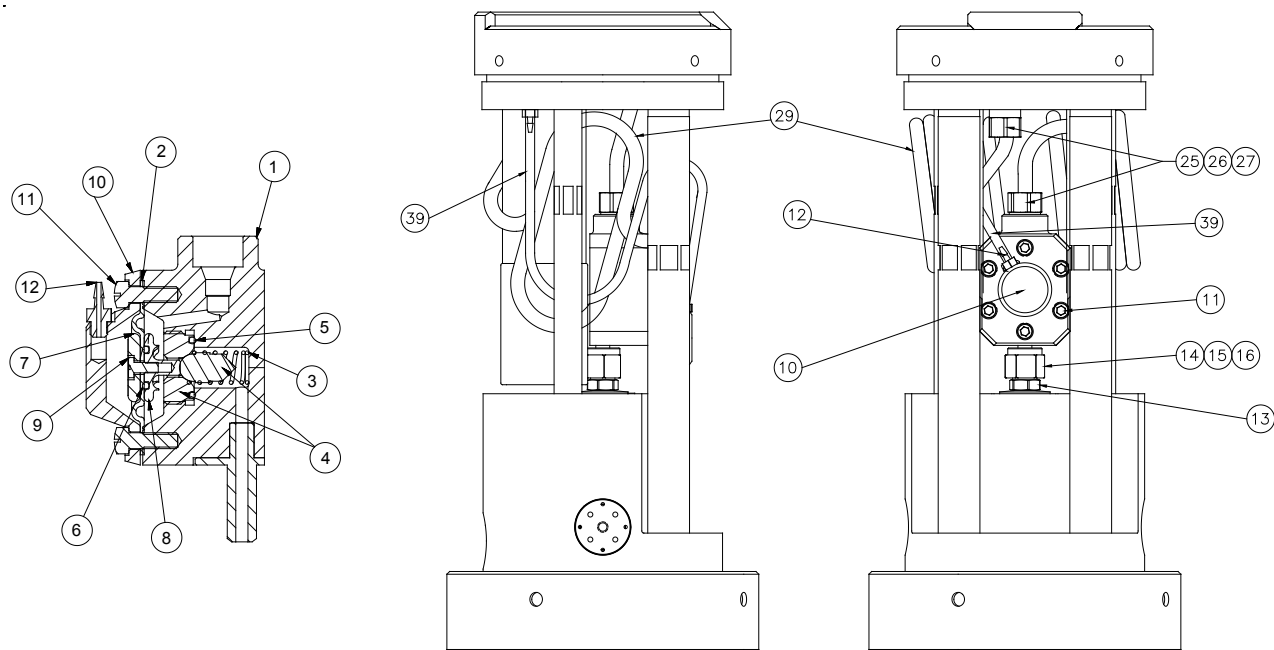

Figure 15: Fluid Regulator Assembly
FLUID REGULATOR (When Equipped - See Figure 15)
9. Tighten the regulator bonnet [10] to the block assembly [1] securely with the six (6) screws [11] in an alternating 180° method. Reinstall the tube.
12. Reinstall the coiled tube [29] as shown in Figure 15; one of the coils of the tube must be wrapped around the cascade as shown. Re-attach the pilot tube [39] to the regulator bonnet.
FLUID REGULATOR ASSEMBLY - PARTS LIST (Figure 15)